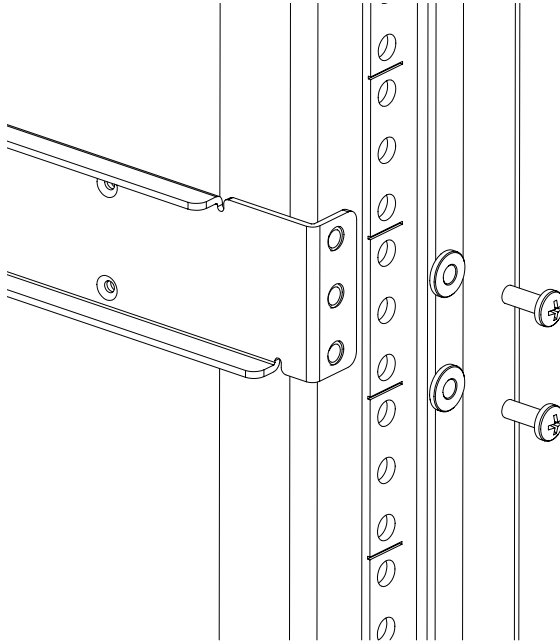

Figure 9: Assembling the outer rails (HP System/e cabinet)
- For an HP System/e cabinet, install two #10-32 x 1/2-inch Phillips pan-head screws with captive star lock washers and two #10 alignment washers in the upper and lower hole locations of the right rail. Then install two #10-32 x 1/2-inch Phillips pan-head screws with captive star lock washers and two #10 alignment washers in the upper and lower hole locations of the left rail. See Figure 9.